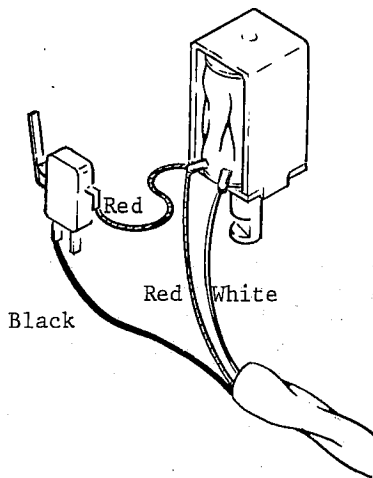

Fig. 9-10
- 8) Solder the rest of leads to the solenoid as shown in the Fig. 9-10.